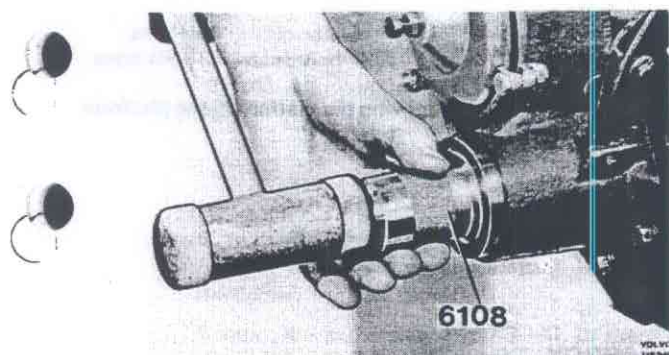

Fig. 43-33. Driving seal
6. Drive the seal into the housing with 2806, see Fig. 43-33.